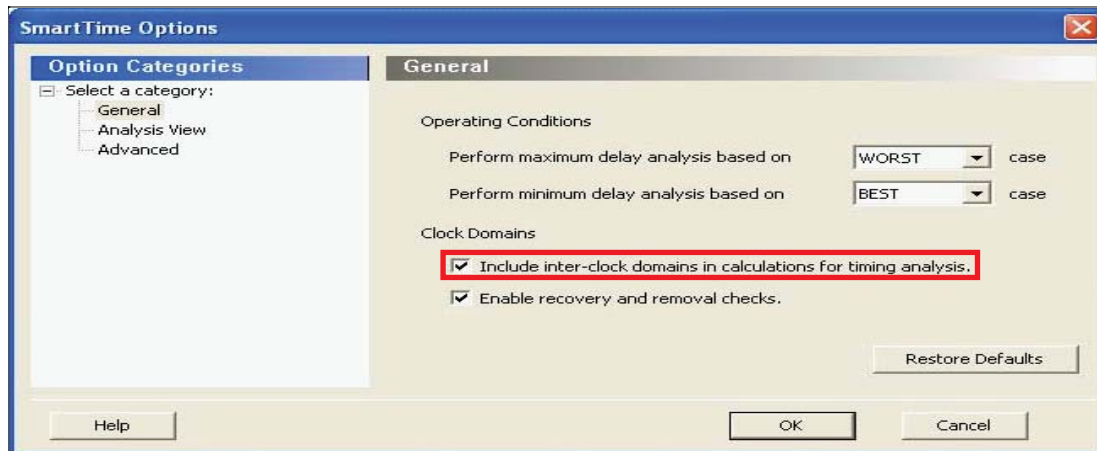

Figure 59 • Enabling Inter-Clock Domain Analysis
2. Select the **Include Inter-clock domains in calculations for timing analysis** check box in the SmartTime Options dialog box to select inter-clock domain analysis, as shown in Figure 59. Click **OK**.